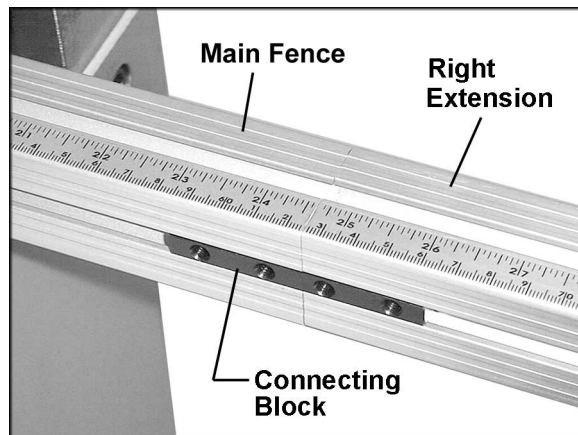

Figure 11
1. On the main fence, loosen the four set screws in the front connecting block (Figure 11) and the rear connecting block (not shown) with a 2.5 mm hex wrench.
2. The connecting blocks should be located in the side channels of the main fence. If they are not, slide them out and re-insert them into the side channels, as they are shown in Figure 11.
3. Slide the fence extension onto both connecting blocks, and flush against the main fence, as shown in Figure 11.